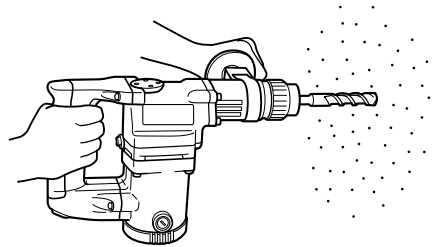

Fig. 6
- (1) Mount the drill bit.
- (2) Pull the trigger switch after applying the drill bit tip to the drilling position (Fig. 6)
- (3) Pushing the rotary hammer forcibly is not necessary at all. Pushing slightly so that drill dust comes out gradually is just sufficient.
- When the drill bit touches an iron reinforcing rod, the bit will stop immediately and the rotary hammer will react to revolve. Therefore please grip the side handle and handle tightly as shown in Fig. 6.